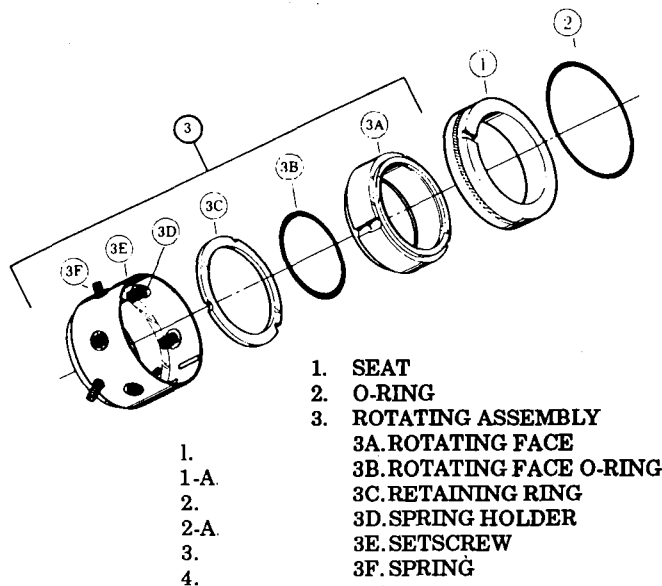

Figure 3. This figure is generally representative of the crane type 8-1 and Borg Warner Type Q mechanical seal.
- (1) Pump model precedes rotor size. EXAMPLE: CB324A-162
- (2) Figures 6, 9 and 10 pumps can be equipped with either mechanical seal seat as illustrated in Figures 3, 4, 11 or 12.
- (3) Special pump Bill of Material Suffix (three or four digits) follows rotor size designator.
Figure 10 and 15 only: Remove mechanical seal seat (1, Figure 3 or 4) with O-ring (2, Figure 3 or 4) from seal cover (045). Remove O-ring (2) from seat (1).
Figures 12 and 14 only: Remove mechanical seal seat (1-A, Figure 3 or 4) with grommet (2-A, Figure 3 or 4) from seal cover (045). Remove grommet (2-A) from seat (1-A).
Figures 10, 12, 14 or 15, Crane Type 9 Seal: Loosen setscrews (8, Figure 3) and slide mechanical seal rotating parts (3 through 9, Figure 3), shim (043) and spacer (042) off power rotor (013).
Figures 10, 12, 14 and 15: Install O-ring (2, Figure 3 or 4) on seat (1, Figure 3 or 4) or grommet (2-A, Figure 3 or 4) on seat (1-A, Figure 3 or 4) and place assembled seat in seal cover (045). Measure thickness of power rotor bore of seal cover (045) including mechanical seal thickness and identify thickness as distance "Y". Determine required thickness of shim (043) by adding seal working length "S" to thickness of seal cover bore "Y" and subtracting the total from power rotor length "X".
Crane 9 Mechanical Seal (Refer to Figure 3): Slide mechanical seal rotating parts (3 through 10) on power rotor (013) until retainer (7) rests nest to shim (043). Remove and discard retaining clips (10); then slide seal until full contact exists between seal retainer (7) and shim (043). Tighten set screws (8).